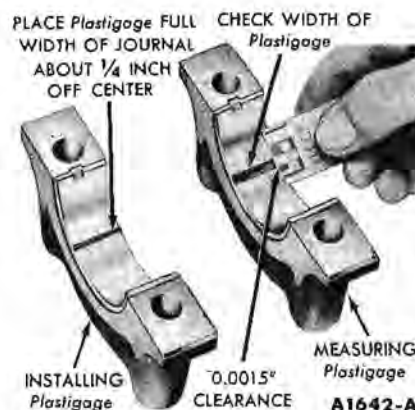

FIG. 41—Installing and Measuring Plastigage—Engine Installed
10. Place a piece of Plastigage on the bearing surface the full width of the bearing cap and about 1/4 inch off center (Fig. 41).